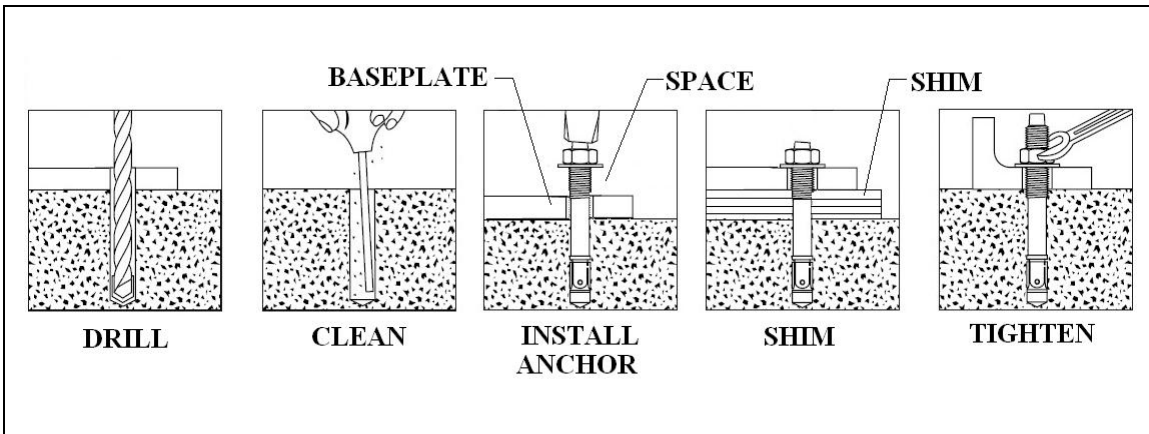

Figure 7. Anchor installation
1. Refer to Figure 7 while reading through these instructions.